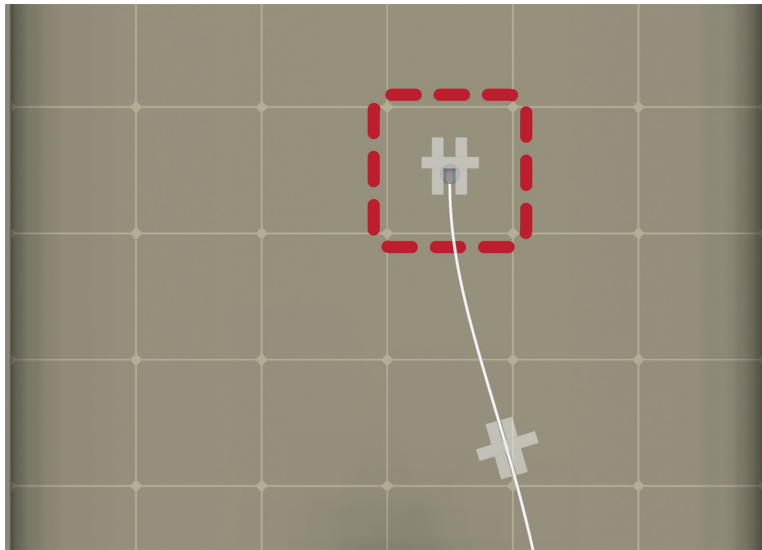

FIGURE 7-5. Proper tape usage
2. Place the other strips of tape perpendicular and on top of the first strip of tape and rub the tape surface to remove bubbles. These strips of tape should form an H (FIGURE 7-5 (p. 16)).